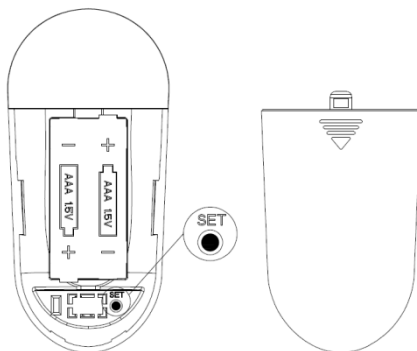

FIG. 1
2. Press and hold the emitter's "SET" key for about 3S in 30 seconds of turning the Receivers AC power ON, The receiver learn the emitter's CODE and the emitter can remote the receiver.(FIG.1 / 2 / 3)
3. Your transmitter is ready for use after 2pc DC1.5V/ AAA, battery installation(FIG. 1)